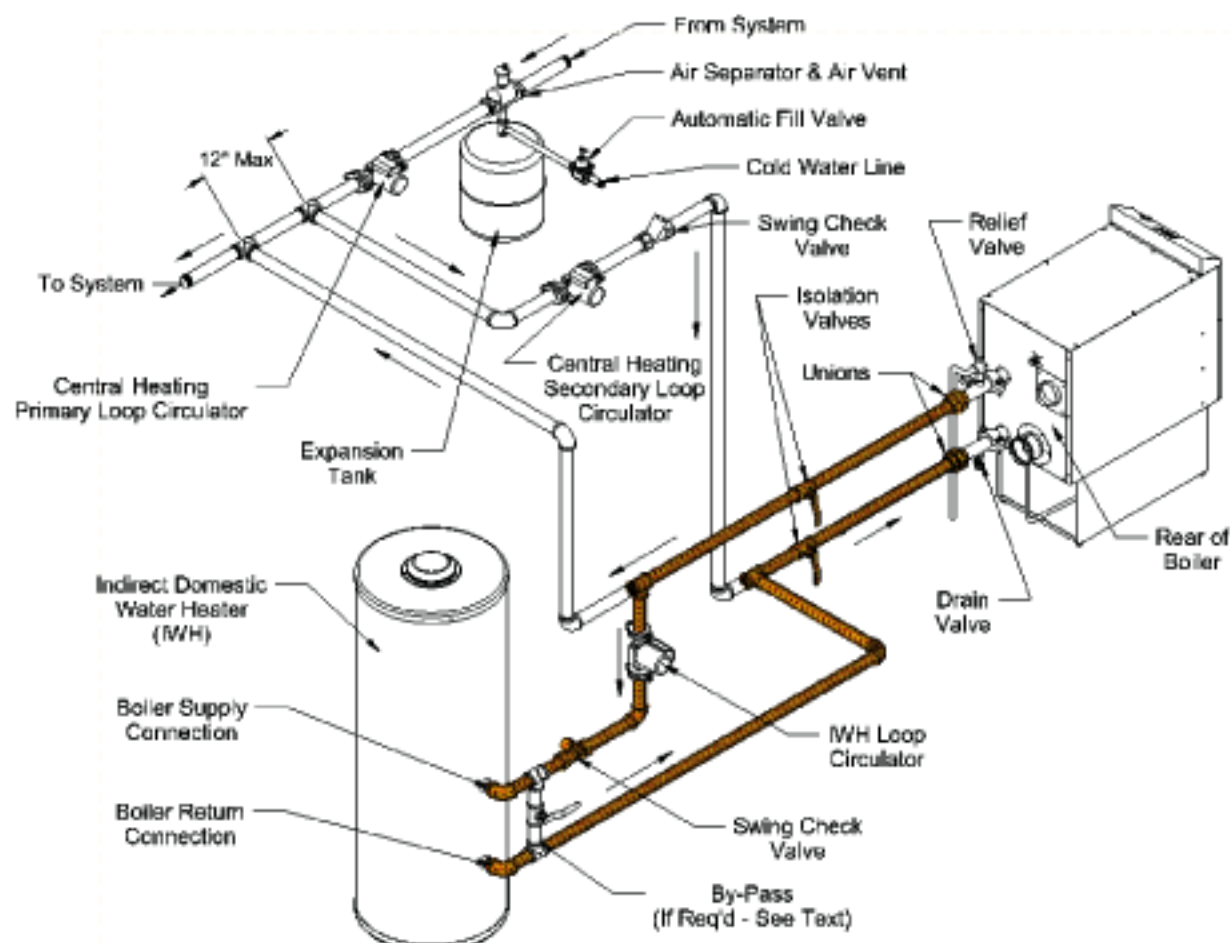

Figure 8.4b: Piping Method #1 - Indirect Water Heater Loop Piping (Shaded)
- 3) **Indirect Water Heater Loop Piping (If Indirect Water Heater is Used)** - The indirect water heater loop piping is shown shaded in Figure 8.4b. Some of the piping in this loop is common to the secondary loop sized above. Piping common to both loops is always sized from Table 8.5, column (a) as described above. All indirect water heater loop piping that is not common (the "I.W.H branch") is sized from Table 8.7, column (a). If the indirect water heater connections are smaller than the pipe size called for in Table 8.7, column (a), reduce the pipe size at the indirect water heater connections. To size the circulator:
- a) Count all fittings in the planned Indirect Water Heater Loop (all shaded piping in Figure 8.4b). In doing so, you will be counting some piping and fittings which are common to the heating system secondary ("boiler loop") piping and which were counted in Step 2a above. Do not count the fittings supplied with the boiler. If Table 8.7 requires a bypass, do not count the pipe and fittings in the by-pass.